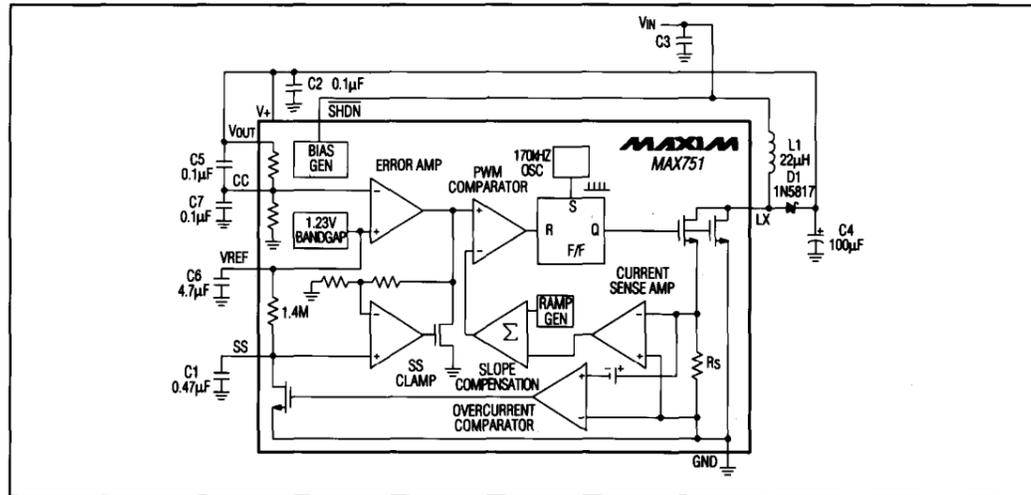

Figure 1. Detailed Block Diagram with External Components, Bootstrapped Mode
(Circuit of Figure 1, V_{IN} = +3V, I_{LOAD} = 0mA, T_A = T_{MIN} to T_{MAX}, typical values are at T_A = +25°C, unless otherwise noted.)
(Circuit of Figure 1 in bootstrapped mode, $L_1 = 22\mu\text{H}$, $T_A = +25^\circ\text{C}$, unless otherwise noted.)
(Circuit of Figure 1 in bootstrapped mode, L1 = 22 μ H, T_A = +25°C, unless otherwise noted.)
The controller consists of two feedback loops: an inner (current) loop that monitors the switch current through the current-sense resistor (R_S) and amplifier, and an outer (voltage) loop that monitors the output voltage with an error amplifier (Figure 1). The inner loop performs cycle-by-cycle current limiting, truncating the power transistor on time when the switch current reaches a threshold determined by the outer loop. For example, a sagging output voltage produces an error signal that raises the threshold at the error amp output. This allows the inductor current (which generates the current-sense amp output voltage) to increase, resulting in more energy stored and transferred during each cycle.
The Soft-Start (SS) pin limits power-up current, allowing proper start-up with a load on the output. On power-up, the MAX751 uses the maximum switch duty cycle to draw excessive current to charge the output filter capacitor, and supply current to the load. In this case, the device may stall and the output voltage will not rise to 5V. A capacitor (between 0.047µF and 5µF) is required on SS to ensure proper start-up. The larger the capacitor, the slower the internal current-limit threshold is raised, allowing more time for start-up. As the voltage on the SS pin increases, the voltage at the SS clamp output increases, which in turn increases the current-limit threshold (Figure 1).
Use a Schottky diode with a continuous-current rating of at least 500mA for full-load (≥ 200 mA) operation. The 1N5817 is a good choice. The two compensation capacitor values at the CC input are critical because they have been selected to provide the best transient response. The input capacitor (C3 in Figures 1, 2, and 4) may be omitted if the power supply impedance is very low. Otherwise, up to 100 μ F may be necessary.
The power-up SS charge rate is determined by the time constant formed by the SS capacitor and the internal $1.4M\Omega \pm 25\%$ resistor between VREF and SS (Figure 1).